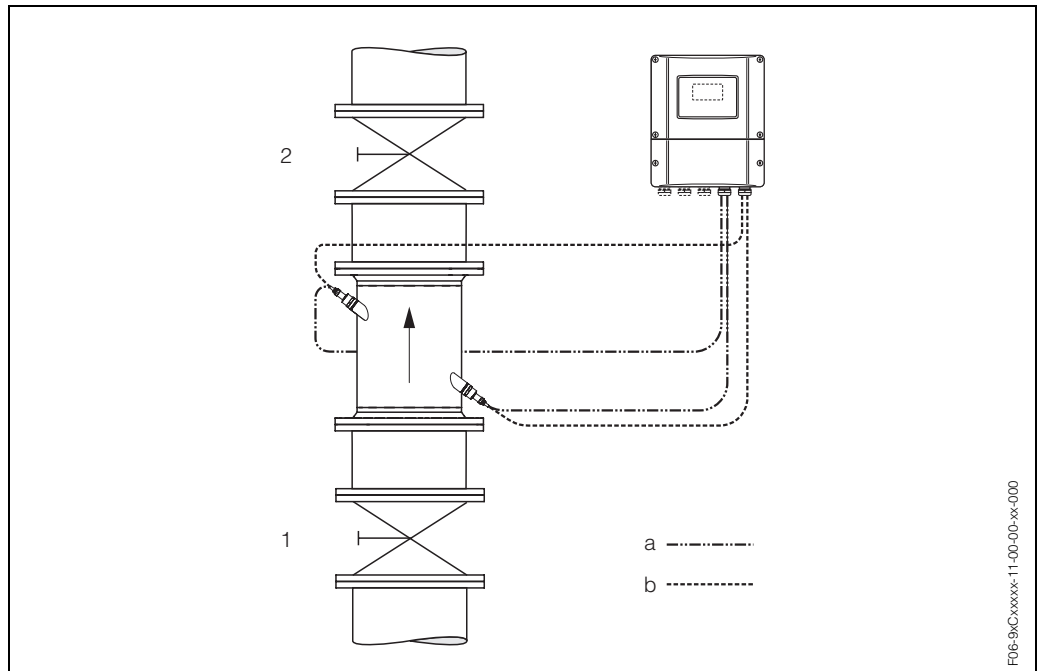

Fig. 32: Zero point adjustment and shut-off valves
- Zero point adjustment is performed with the pipe completely filled and at zero flow ( $v = 0$  m/s). This can be achieved, for example, with shut-off valves upstream and/or downstream of the measuring range or by using existing valves and gates (Fig. 32).